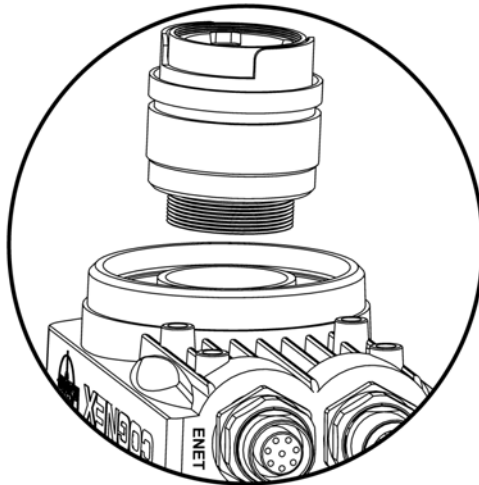

Figure 3-1: Install the Lens
1. Attach a C-Mount lens to the sensor (Figure 3-1).